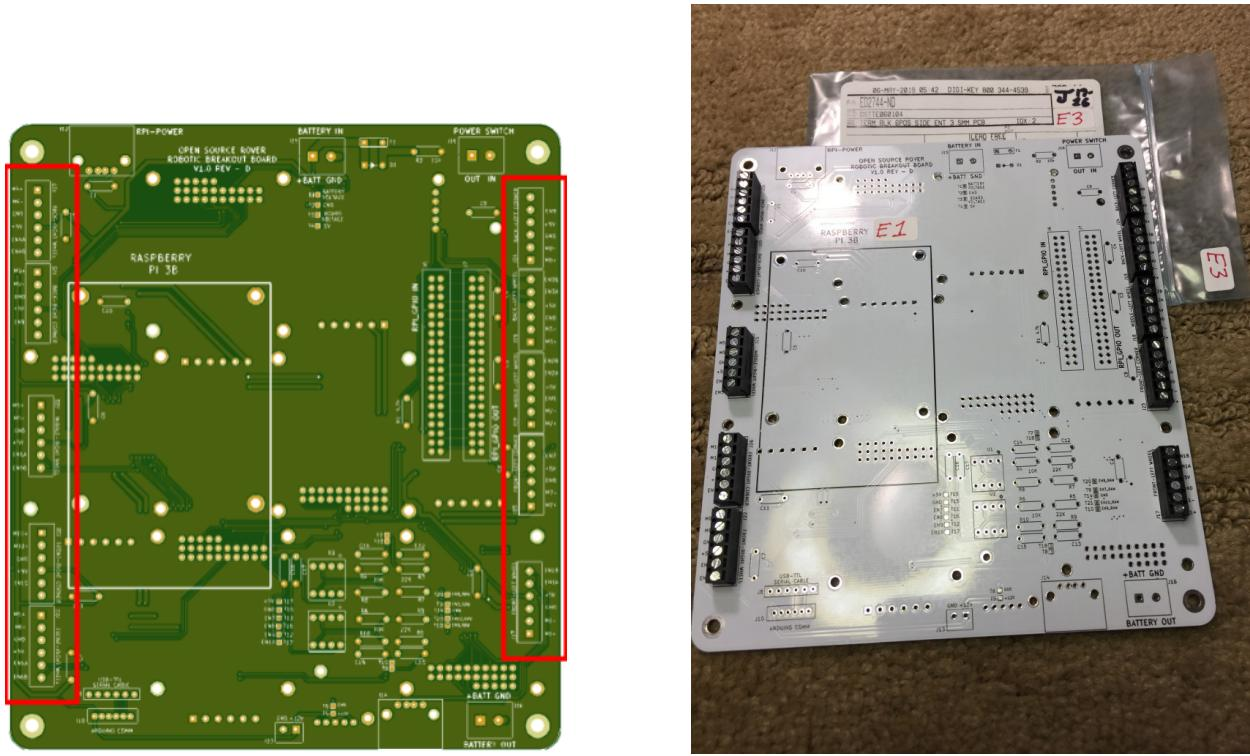

Figure 1: Assembly Step 1
1. Begin by soldering the 6 Position Side entry terminal blocks **E3** into the **top** side of the PCB, on the edge of the board as shown in Figure 1. These terminal blocks will run motor power, encoder power, and encoder signals between the motors/encoders and the RoboClaw motor controllers. The 6 terminal blocks will each be labeled with schematic reference designators J17-J26 on the PCB. Be sure that the wire terminals face **OUTWARD** (away from the center of the board) on all of these connectors.